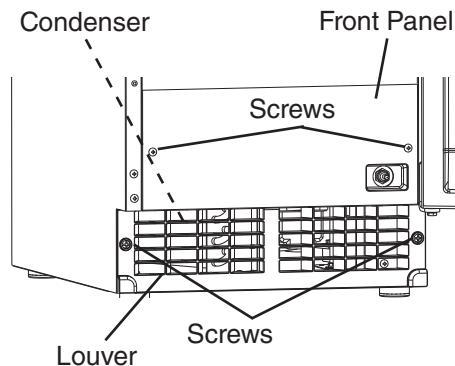

Fig. 50
- 2) Remove the 2 screws securing the front panel, then remove the panel. See Fig. 50.